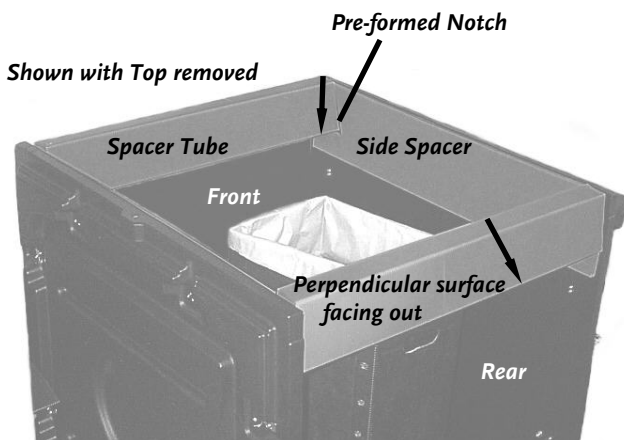

Figure 9
5. Install a Bagger Spacer Tube in the front of the Collector Box by raising the Centrifugal Separator (top) just enough to insert it into the Pre-Formed Notches in the left and right Bagger Spacers. Note the shape of the Spacer Tube; it will only go in one way. The outside surface of the Spacer Tube must be perpendicular to the Top (**Figure 9**).